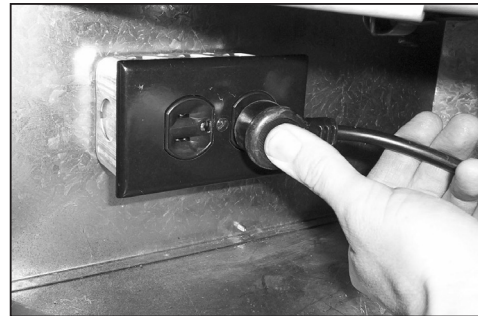

Figure 57. Plug In Fan Kit.
6. Plug the fan into the hard wired electrical box/outlet (refer to Figure 57) that was installed in the "INITIAL INSTALLATION - INSTALLATION OF ELECTRICAL OUTLET FOR OPTIONAL FAN Kit".